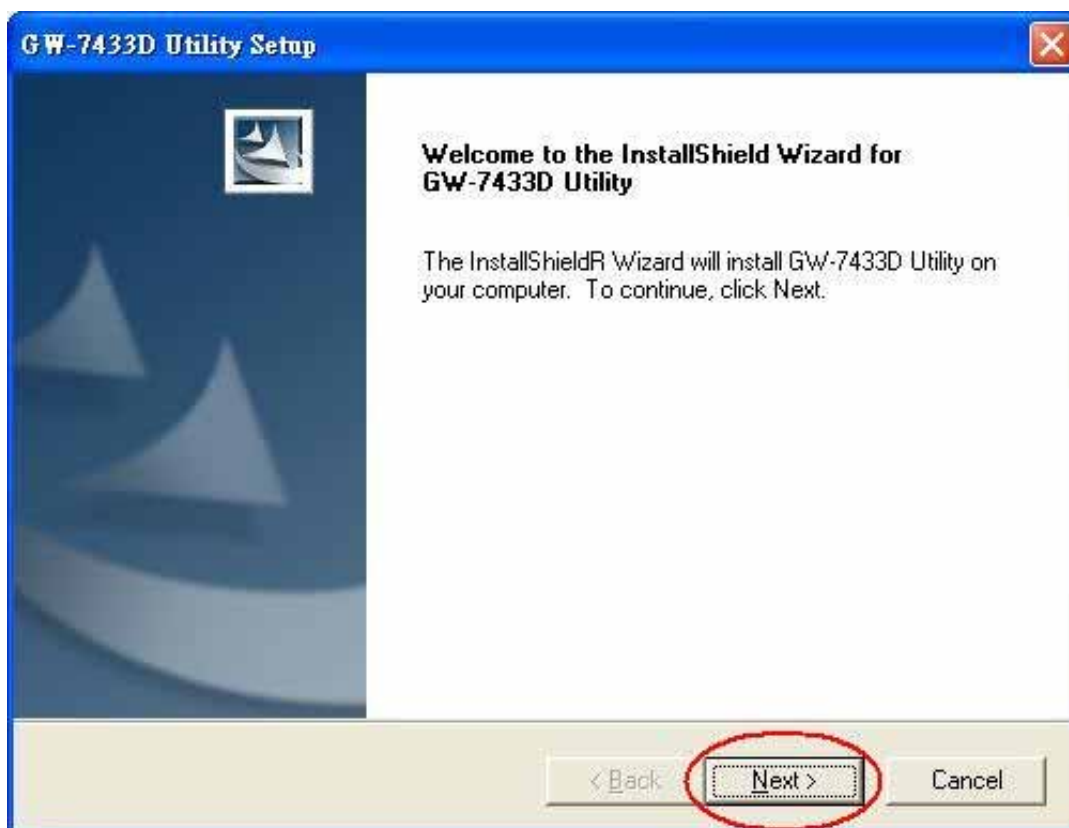

Figure 5-2: Welcome dialog
- Step 3:** A “Welcome” window pops up to prompt user to begin the installation. See figure 5-2.